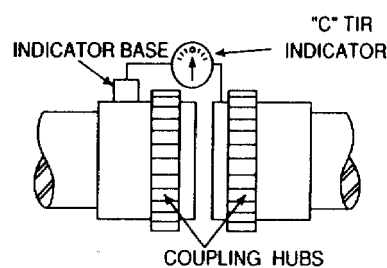

Fig. 5
3.6.6 Parallel misalignment is the amount by which the centre lines of the driver and the driven shafts are out of parallel. It can be measured using the dial indicator as shown in fig. 5. Again the couplings are rotated together through 360 degrees so that the indicator does not measure runout of the coupling hub outside diameter.